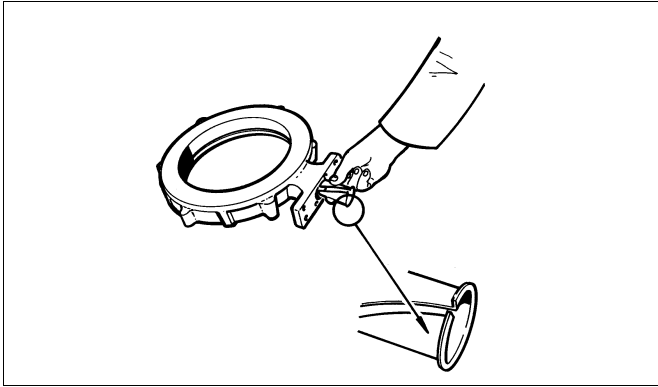

Fig. 15. Mounting the standard bearings
- ❑ Mount the bearings into the body (see Fig. 15).